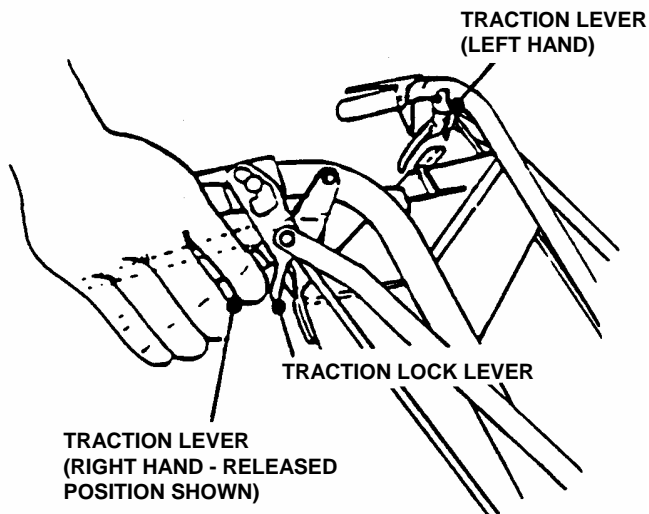

FIGURE 3.9
1. Simultaneously squeeze both Traction Levers firmly against the handle. The right and left Traction Locks will move to the "Unlocked" position. See Figure 3.9.